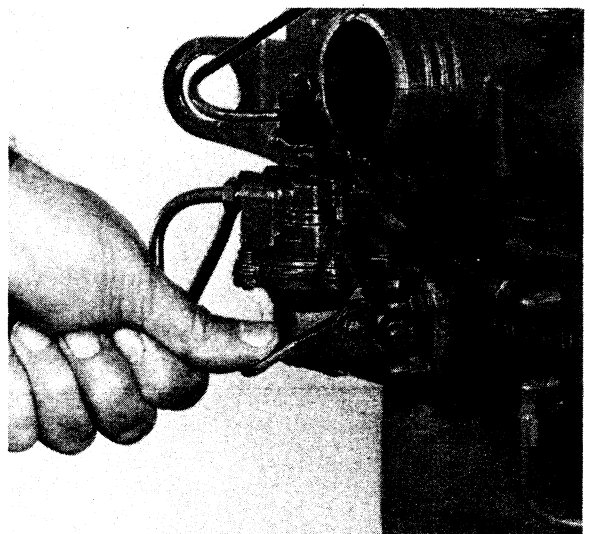

Fig. P5
2. Where the fuel filter is fitted lower than the fuel injection pump, loosen the inlet connection at the fuel pump (see fig. P2A) and operate the lift pump to remove any air (see fig. P5). Tighten the connection.
6. Operate the priming lever of the fuel lift pump (see fig. P5) until fuel, free from air, comes from each vent point. If the fuel pump drive cam is on maximum lift, it will not be possible to operate the priming lever and the crankshaft must be turned through one revolution. Tighten the vent screw on filter head cover (where fitted), hydraulic head vent screw and then governor vent screw.
Turn engine or operate hand priming lever (see fig. P5). Fuel will be discharged from the outlet connection every second revolution of the engine or every time the hand priming lever is operated.